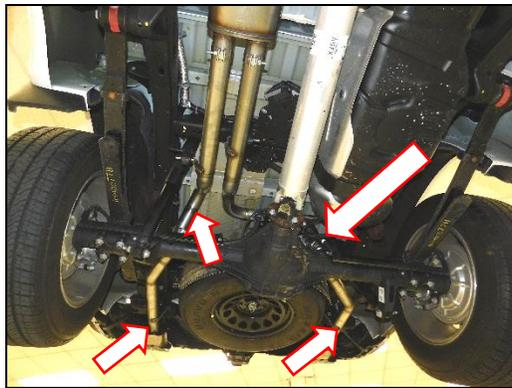

Figure 7
- Install the (x2) supplied band clamps and install the right and left side tailpipes. Slide (x2) hangers in to the OE rubber isolators (**Figure 7**).